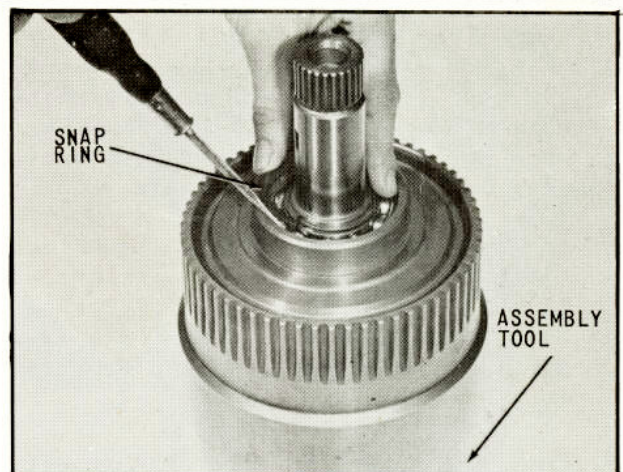

Fig. 48 Installing Snap Ring
44. Install internal snap ring in clutch cylinder, (Fig. 48).